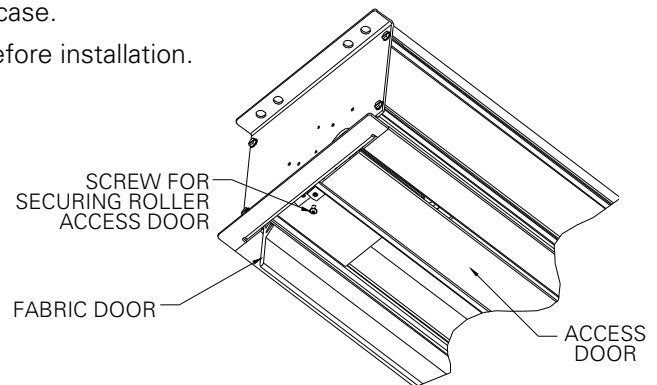

FIGURE 1
3. Remove screw at each end of roller access door (Fig. 1).